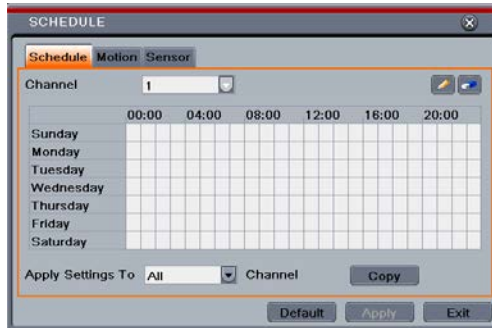

Fig 5-14 Schedule Configuration-Schedule
Step 1: Enter into Menu→Setup→Schedule interface. Refer to Fig 5-14: